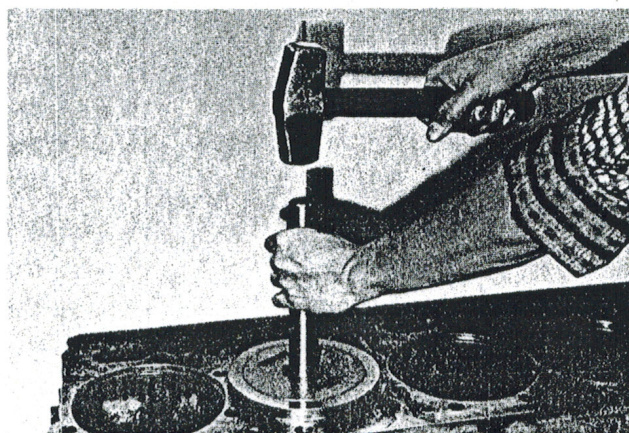

Fig. 12 Driving the bushing into the bore.
2. Coat the outside diameter of the bushing lightly with PTL-40 LOCTITE COMPOUND and drive it into the bore with the bushing driver (29 through 31) using a soft hammer until it bottoms. A solid sound can be heard when the bushing bottoms. (See Fig. 12). Also see Fig. 14 on back side (this page) which shows bushing driver assembled.